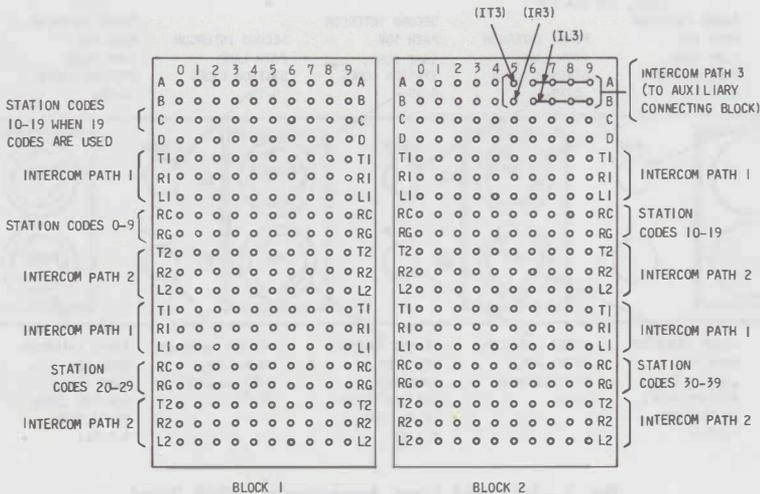
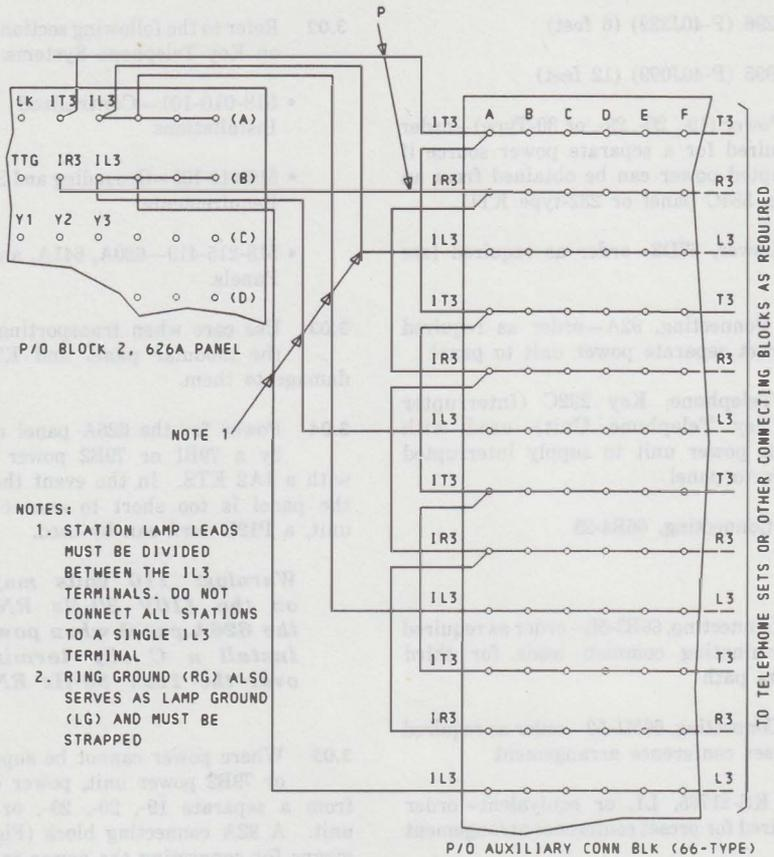
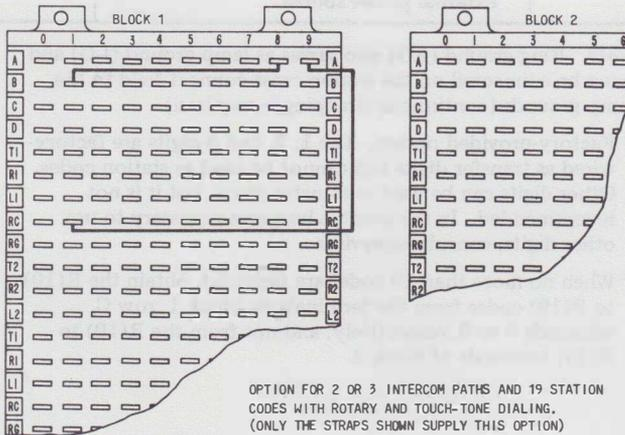

Fig. 4—Intercom Path and Station Code Terminations, 626A Panel
Fig. 5—Typical Arrangement for Connecting Stations to Third Intercom Path
Fig. 9—S Option
2.05 The lower section of the 626A panel has two connecting blocks, light yellow in color, that contain 66-type quick-connect terminals (Fig. 4). These blocks are 20 terminals high by 10 terminals wide. The upper 4 horizontal rows of the connecting blocks contain power option and function terminals to interconnect the various intercom arrangements and optional features. The lower 16 horizontal rows of the connecting blocks provide the station cross-connect terminals for station codes and for the first- and second-path intercom stations. The third intercom path access circuit common leads are brought out on rows 1 and 2 of the second connecting block. Straps must be run to a separate 66-type connecting block (Fig. 5) for distribution to the third-path intercom station.
connecting block (Fig. 5) is required to connect the common leads.
4.04 The S option (Fig. 9) provides for two or three intercom paths with 19 station codes. Stations can utilize both rotary and TOUCH-TONE dialing. Digit 1 is used as the transfer digit and is not available for a station code. Station codes 10 through 19 are connected to row C, terminals 0 through 9 on block 1 of the 626A panel (Fig. 4).
Where a third intercom path is used, an external (66-type) connecting block (Fig. 5) is required to connect the common leads.